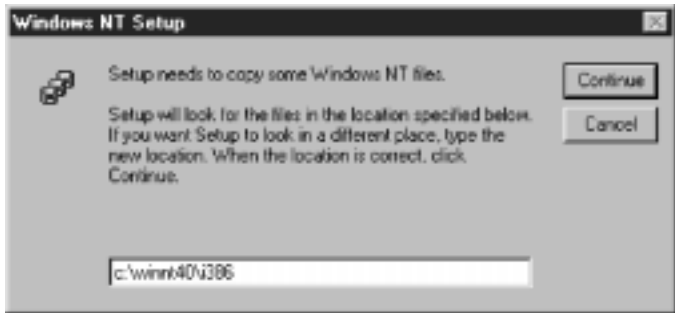

Figure 2-4 Windows NT Setup Window
- 18 When Figure 2-4 appears again and asks for the location of the files, type a: